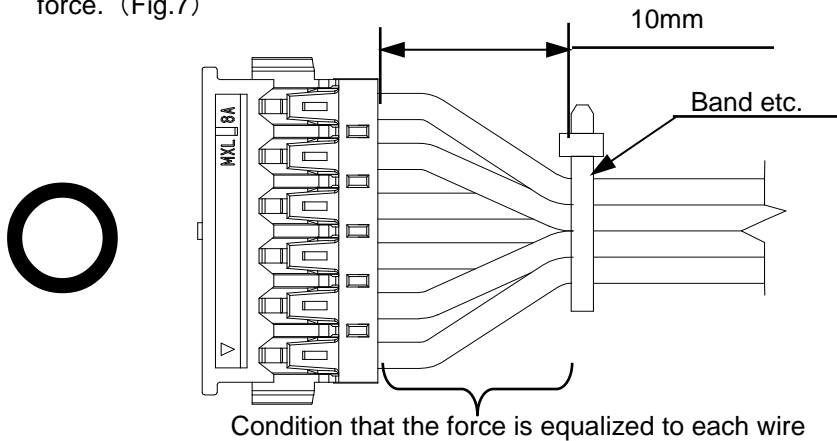

Fig.6 Condition that harness is banding properly
- ① Please band the wires at more than 10mm length from connector and equalize the force to each wires (Fig.6)